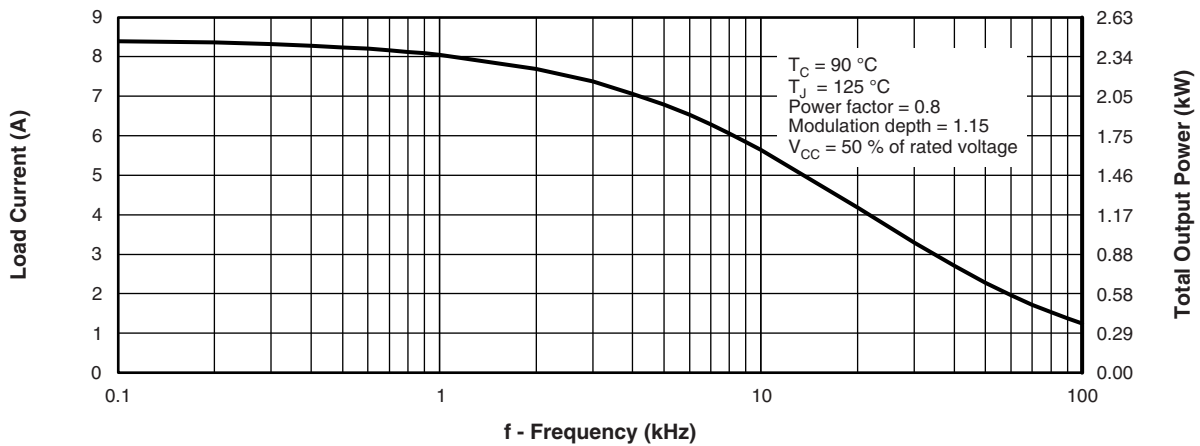

Fig. 1 - Typical Load Current vs. Frequency
Modulation depth See fig. 1	115 %
- Optimized for medium speed, see fig. 1 for current vs. frequency curve